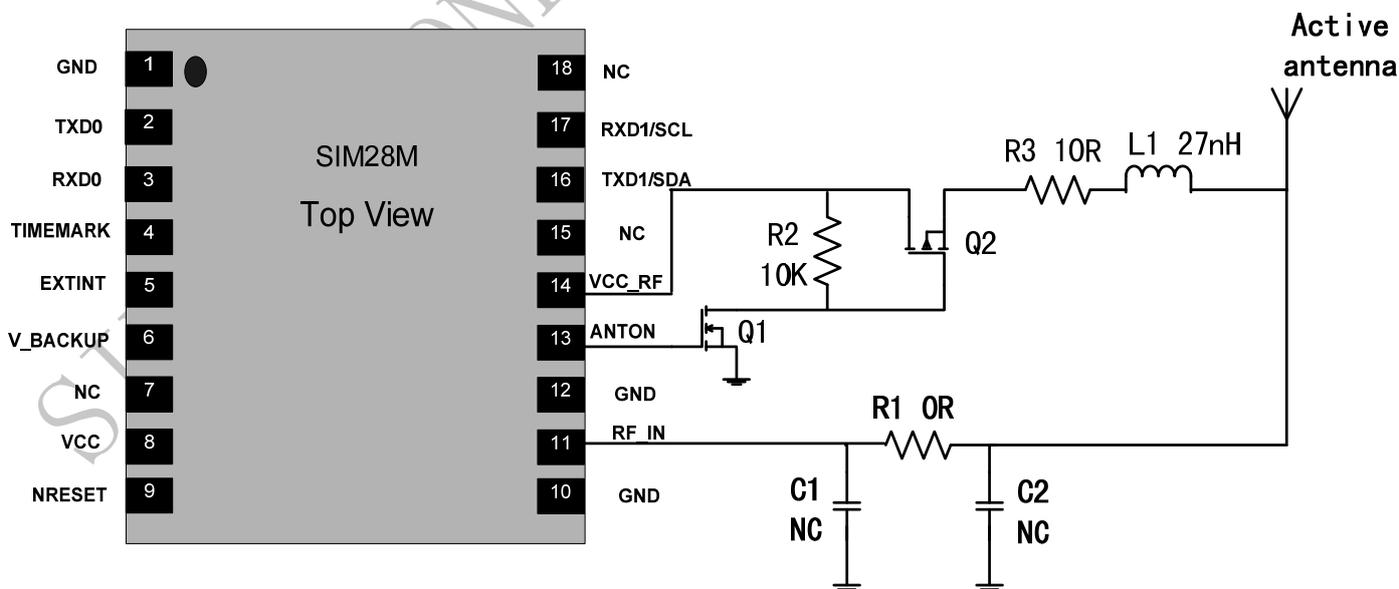

Figure 9: SIM28M Active antenna power consumption saving design
- SIM28M can also reduce power consumption by controlling the power supply of active antenna by pin 13 ANTON as shown in Figure 9. ANTON is an optional pin which can be used to control the power supply of the active antenna or the enable pin of an external LNA. When SIM28M module enters the standby mode, the ANTON pin will be pulled down, MOSFET Q1 and Q2 are in high impedance state and the power supply for antenna is cut off. In normal mode, the voltage value of ANTON is about 2.8V, it will make Q1 and Q2 in the on-state, VCC_RF will provide power supply for the active antenna. If not used, please keep ANTON pin open. For minimizing the current consumption, the value of resistor R2 should not be too small, and the recommended value is 10k ohm.